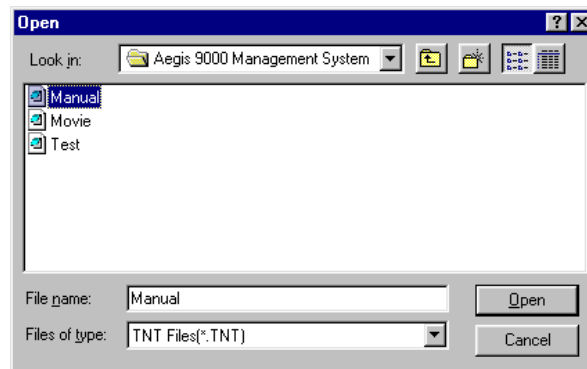

Figure 5.10
Step 1 Click on “**File**” and select “**Open Send File**”. See figure 5.10.
- Step 1** Click on “**File**” and select “**Open Send File**”. See figure 5.10.
- Step 1** Click on "File" and select "Open **S**end File". See figure 5.10.